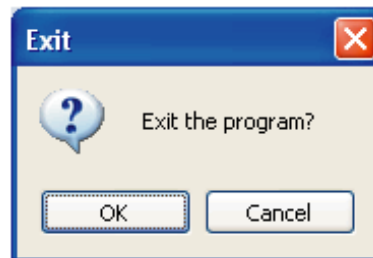

Fig.4-17
③Click “Exit the program” to quit the program, while click “Cancel”, system will not quit, as Fig. 4-17.
2) “Equipment management” includes: “KJR Setting”, “Module parameter setting”, “Outdoor module setting”, as Fig. 4-17.